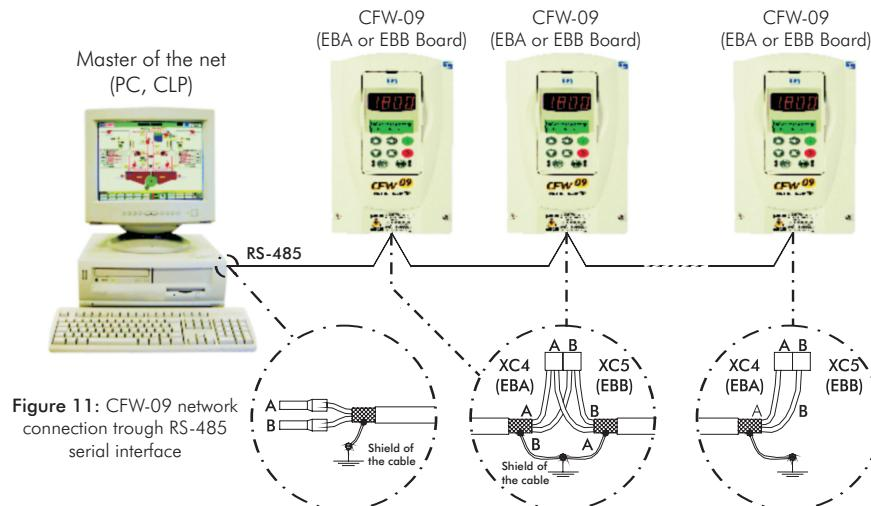

Figure 11: CFW-09 network connection through RS-485 serial interface
- 1) Line termination: include line termination ( $120\Omega$ ) only at the network ends. (See table 2 or 4 - fig.11);